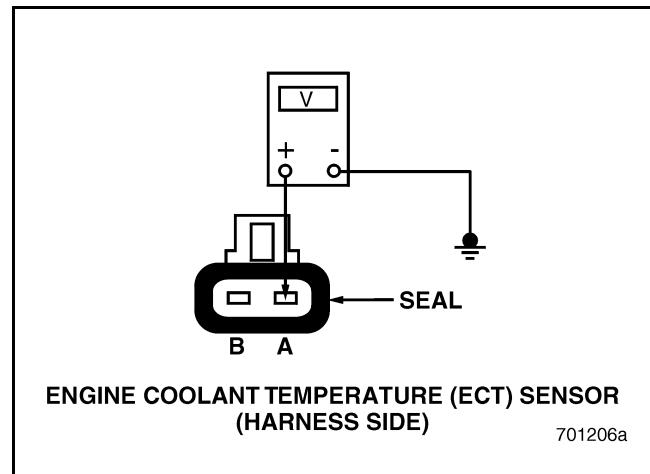

Figure 161
5. Measure the voltage at pin A of the ECT Sensor harness connector (see Figure 161). If the measured voltage is between 4.5 and 5.5 volts, check the ECT Sensor harness connector for deformed pins or insufficient contact with the ECT Sensor pins. If the pins are not damaged, replace the ECT Sensor. If the measured voltage is less than 4.5 volts, go to test "Test 82 — Checking for a Short Circuit at the EECU Connector" on page 150.